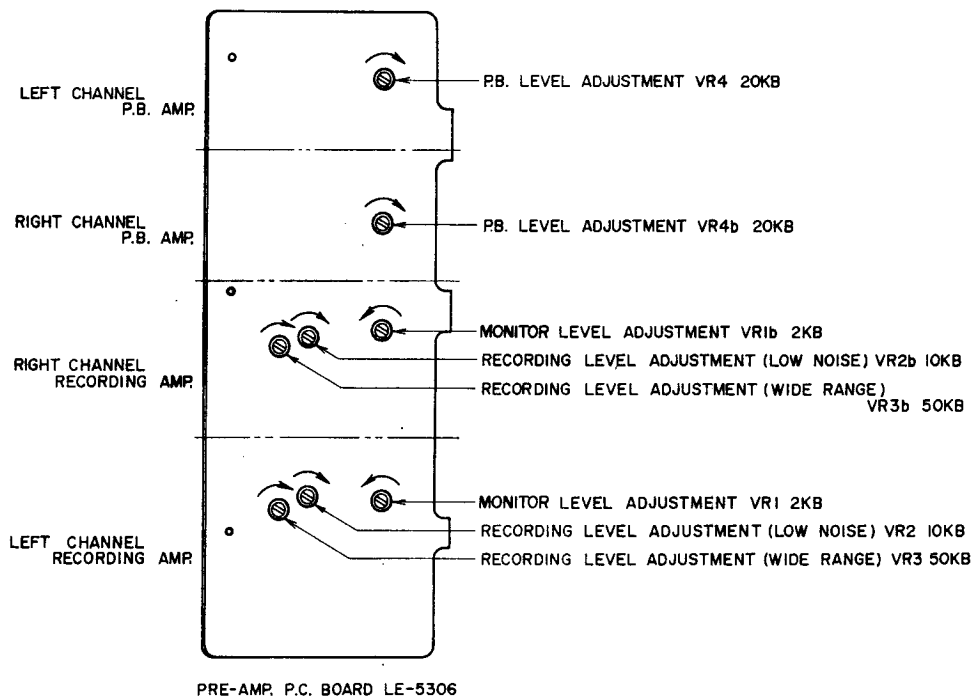

Fig. 20 PRE AMP. P.C. BOARD LE-5306
- 2) Adjust Pre-Amp. P.C. Board semi-fixed resistors VR4 20 k Ω (left channel) and VR4b 20 k Ω (right channel) shown in Fig. 20 to obtain a 0 dBm High Sensitivity V.T.V.M. indication.
(See Fig. 20)
- 3) Adjust Pre-Amp. P.C. Board semi-fixed resistors VR1 2 kB (left channel) and VR1b 2 kB (right channel) shown in Fig. 20 to obtain a 0 dBm High Sensitivity V.T.V.M. indication.
USING LOW NOISE TAPE (See Fig. 20)
USING WIDE RANGE TAPE (See Fig. 20)
- 4) Adjust Pre-Amp. P.C. Board semi-fixed resistors VR3 50 kB (left channel) and VR3b 50 kB (right channel) shown in Fig. 20 to obtain a -1 dBm High Sensitivity V.T.V.M. indication.